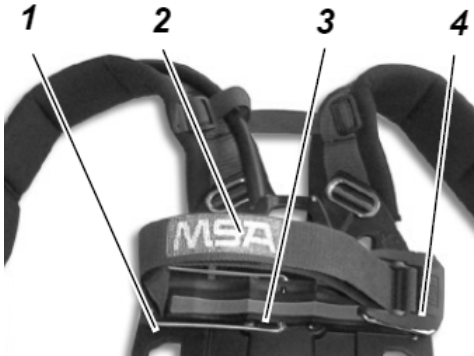
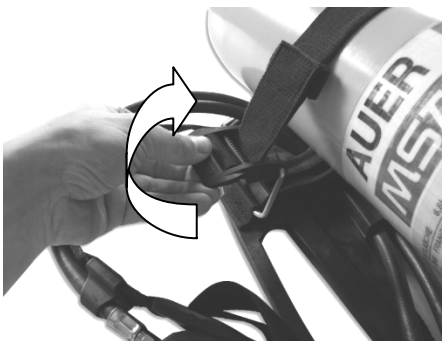
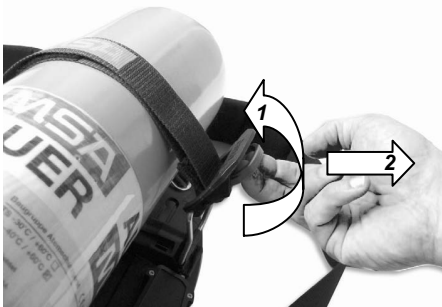

Fig. 10 Compressed air breathing apparatus – details
Fig. 11 Opening the tension clamp
Fig. 12 Readjusting the strap length at the tension clamp
- (1) Place compressed air breathing apparatus horizontally so that the back face is uppermost (→ Fig. 10).
- (2) Bring cylinder separator (1) into a horizontal position opposite the tension clamp (4) until it catches.
- (3) Check gasket on pressure reducer high pressure socket for proper condition.
- (4) Open tension clamp on cylinder strap eliminating any tension by extending the strap to full length pulling the small bar at the tension clamp (→ Fig. 11).
- (9) Check position of compressed air cylinder, retighten if necessary.
- (10) Hinge tension clamp gently and completely down over the centre until it catches.
- (11) If push force/tension is too high during hinging of the tension clamp, re-adjust the strap length at the tension clamp. If the strap tension is too low, re-adjust the strap length at the tension clamp (→ Fig. 12).
- (1) If necessary, screw the *alphaCLICK 2* cylinder adaptor with a specific torque of 20-30 Nm into the cylinder valve.
- (2) Place compressed air breathing apparatus horizontally so that the back face is uppermost (→ Fig. 10).
- (3) Bring cylinder separator (1) into a horizontal position opposite the tension clamp (4) until it catches.
- (4) Open tension clamp on the cylinder strap eliminating any tension by extending the strap to full length pulling the small bar at the tension clamp (→ Fig. 11).
- (5) Push compressed air cylinder through the cylinder strap (2) with the cylinder valve toward the pressure reducer so that it lies on the central support (3).
- (6) Align the compressed air cylinder with the *alphaCLICK 2* axially to the coupling and fit on the *alphaCLICK 2* coupling.
- (9) Check position of compressed air cylinder, re-position if necessary.
- (10) Hinge tension clamp (4) gently and completely down over the centre until it catches.
- (12) Fasten end of the cylinder retaining strap onto Velcro strip.
- (13) Briefly open cylinder valve and check for escaping air, retighten if necessary.
- (2) Hinge cylinder separator (1) into a vertical position until it catches.
- (3) If there is no T-piece connected to the pressure reducer, check gaskets on pressure reducer and T-piece and screw in T-piece loosely.
- (4) Open tension clamp on cylinder strap eliminating any tension by extending the strap to full length pulling the small bar at the tension clamp (→ Fig. 12).
- (5) Push one compressed air cylinder through the cylinder retaining strap so that the cylinder valve points to the T-piece, and lies on one of the outer supports.
- (6) Loosely screw the cylinder valve onto the T-piece.
- (7) Push a second compressed air cylinder through the cylinder retaining strap so that the cylinder valve points to the T-piece and lies on the outer support.
- (8) Loosely screw the second cylinder valve onto the T-piece.
- (12) Hinge tension clamp down until it catches.
- (13) If push force/tension is too high during hinging of the tension clamp, re-adjust the strap length at the tension clamp. If the strap tension is too low, re-adjust the strap length at the tension clamp (→ Fig. 12).
- (14) Fasten end of the cylinder retaining strap onto Velcro strip.
- (15) Check that compressed air cylinders are held securely, retighten if necessary.
- (1) If necessary, screw the *alphaCLICK 2* cylinder adaptor with a specific torque of 20-30 Nm into in the T-piece.
- (3) Hinge cylinder separator (2) into a vertical position until it catches.